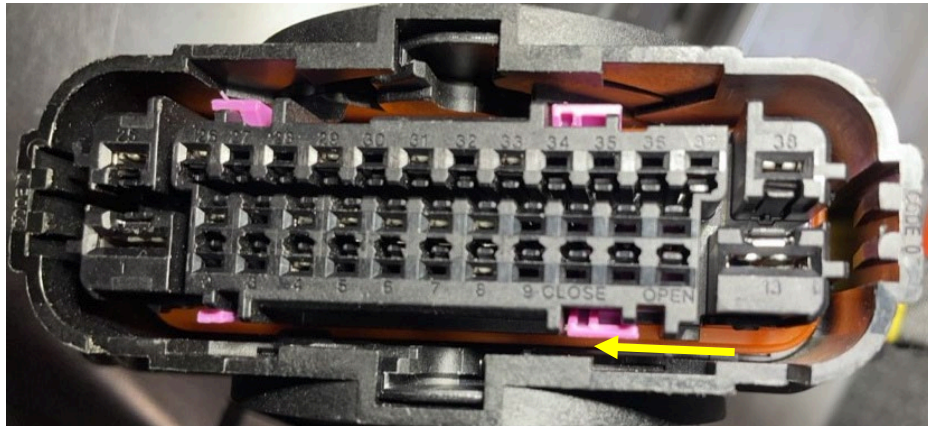

Figure 31
28. Use a pick to slide the large locking tab of connector X151 from “OPEN” to “CLOSE” (Figure 31).